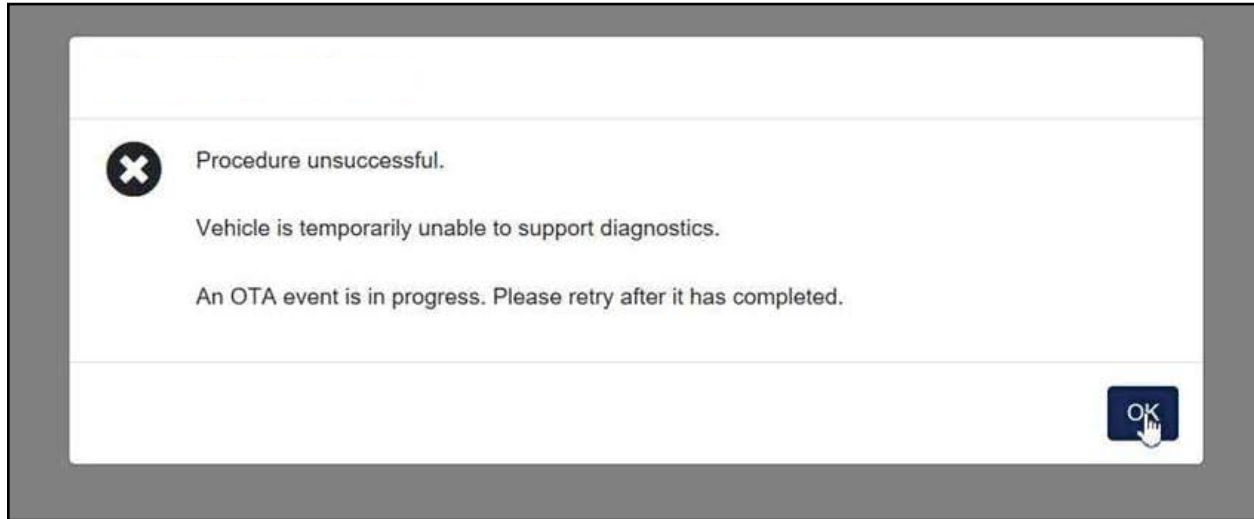

FIGURE 12
27. Was a procedure unsuccessful displayed on the screen as shown in Figure 12?